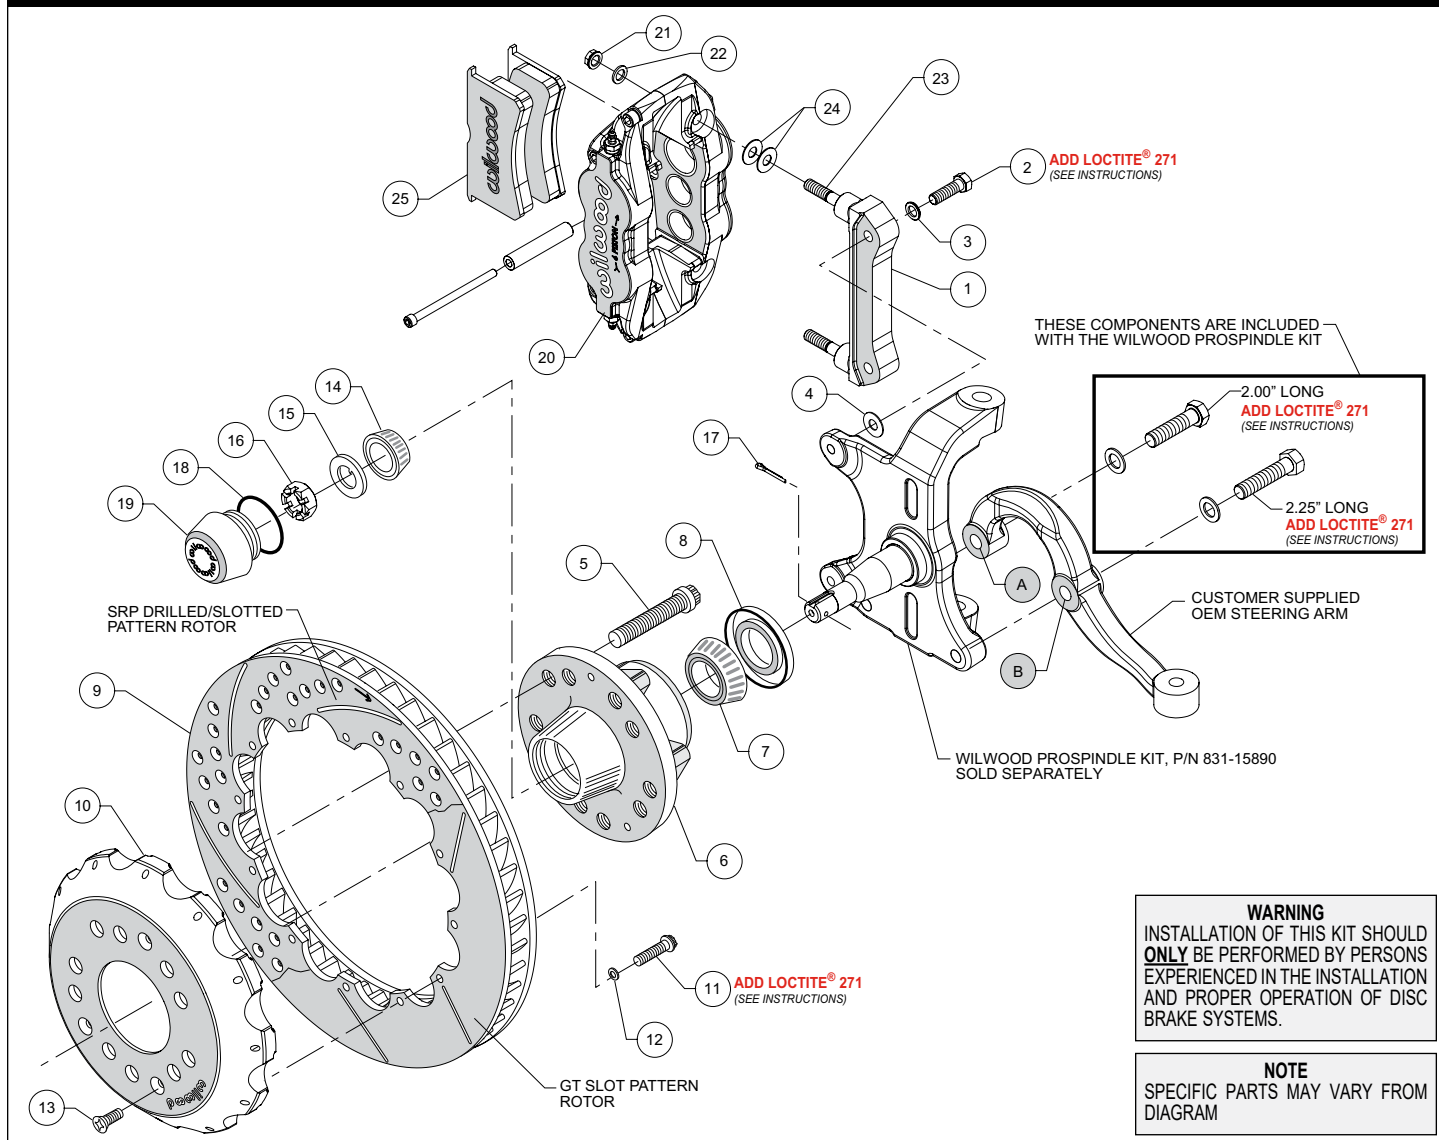
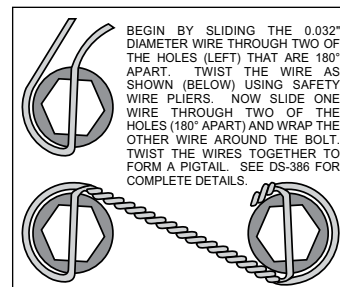

Figure 1. Typical Installation Configuration
Figure 3. Safety Wire Diagram
Assembly Instructions (numbers in parenthesis refer to the parts list on the preceding page, and Figure 1):
•**NOTE:** Wilwood's AFX ProSpindle kit includes bolts and washers to mount the steering arm (customer supplied) to the spindle. The various bolts are identified by length in the following instructions and in Figure 1.
•Orient the steering arm, and identify the hole marked "A" as shown in Figure 1. Attach arm to spindle using 2.00" long bolt and washer (from ProSpindle kit), Figure 1. Finish attaching the steering arm through the hole marked "B", using 2.25" long bolt and washer (from ProSpindle kit), Figure 1. Temporarily tighten the mounting bolts. **NOTE:** The steering arm must fit squarely against the mounting points on the spindle. Inspect for interference from casting irregularities, machining ridges, burrs, etc. Remove bolts one at a time, apply red *Loctite*® 271 to threads, and torque to 77 ft-lb.
•The caliper mount bracket (1) should initially be installed with clean, dry threads on the mounting bolts. Orient the bracket as shown in Figure 1, and install using bolts (2) and washers (3). Initially place one .035" thick shim (4) on each bolt between the bracket and spindle, Figure 1 and Photo 1. Temporarily tighten the mounting bolts. **NOTE:** The bracket must fit squarely against the mounting points on the spindle. Inspect for interference from casting irregularities, machining ridges, burrs, etc. Later, after the caliper alignment has been checked, the mount bolts will be secured using red *Loctite*® 271.
•Install wheel studs (5) into the hub (6), Photo 2. Torque to 77 ft-lb. **NOTE:** There are two five lug patterns in the hub (5 x 4.50 and 5 x 4.75). Ensure the correct hub stud pattern is being used to fit the wheel application.
•Pack the large inner bearing cone (7) with high temperature disc brake bearing grease (available from your local auto parts store) and install into the backside of the hub (6), Photo 3.
•Install the grease seal (8) by pressing into the backside of the hub (6), flush with the end of the hub, Photo 3.
•Pack the small outer bearing cone (14) with high temperature disc brake bearing grease and install into front of hub (6). Slide the hub assembly onto the spindle. Secure using spindle washer (15) and spindle nut (16), Photo 4. Bearing adjustment: Tighten the nut while turning the hub. When there is a slight bind on the bearings, they are seated correctly. Back the nut off about 1/6 to 1/4 of a turn, or sufficiently to allow .001" to .007" end play. **WARNING:** Failure to back off adjusting nut could cause bearing to run hot and be damaged, which could cause the wheel to lock or come off. Install a new cotter pin (17).
•Screw dust cap (19) into hub (6). Friction created by the o-ring (18) on the dust cap keeps it from unscrewing. **NOTE:** The O.D. of the existing OEM spindle washer may be larger than
- Orient the rotor (9) and the hat (10) as shown in Figure 1 and Photo 5. Attach rotor to hat using bolts (11) and washers (12). Apply red *Loctite*® 271 to the bolt threads and torque to 155 **in-lb** using a criss-cross pattern. For an added measure of security, the bolts may be safety wired using standard 0.032 inch diameter stainless steel safety wire as shown in Figure 3. Refer to Wilwood's data sheet DS-386 (available at www.wilwood.com/Pdf/DataSheets/ds386.pdf) for complete safety wire installation instructions.
- Slide the hat/rotor assembly (10 and 9) onto the hub (6) taking care to align the small countersunk holes in the hat with the small threaded holes in the hub. **NOTE:** *The hat must fit flush against the hub face or excessive rotor run out may result.* Install three flat head screws (13) through the small holes in the hat, Photo 6, and torque to 85 **in-lb**.
- **NOTE:** *This kit contains distinct right and left hand calipers that must be mounted in a specific direction, as described below.* Initially place two .035" thick shims (24) on each stud (23) between the caliper and the bracket, as shown in Figure 1 and Photo 7. Mount the caliper (20) onto the bracket (1) using lock nuts (21) and washers (22), Figure 1. Ensure that the caliper is mounted so the largest pistons are at the rotor exit end of the caliper, in relation to the direction of rotor rotation. Temporarily tighten the lock nuts and view the rotor through the top opening of the caliper. The rotor should be centered in the caliper, Photo 8. If not, adjust by adding or subtracting shims (4) between the bracket and the spindle. Always use the same amount of shims on each of the two mounting bolts. Once the caliper alignment is correct, remove the bracket mounting bolts (2) one at a time, apply red *Loctite*® 271 to the threads, and torque to 40 ft-lb.
- Remove the caliper center bridge pad retainer bolt, nut, and tube from the caliper. Insert the brake pads (25) into the caliper, with the friction material facing the rotor, as shown in Photo 9. Check that the top of the brake pad is flush with the outside diameter of the rotor, Photo 10. If not, adjust by adding or subtracting shims (24) between the caliper and the bracket. After the caliper pad height is set, torque the caliper lock nuts (21) to 30 ft-lb. Secure the brake pads in place with the center bridge pad retainer tube, bolt, and locknut, Photo 11. The locknut should be snug without play in the bolt or tube. Be cautious not to over tighten.